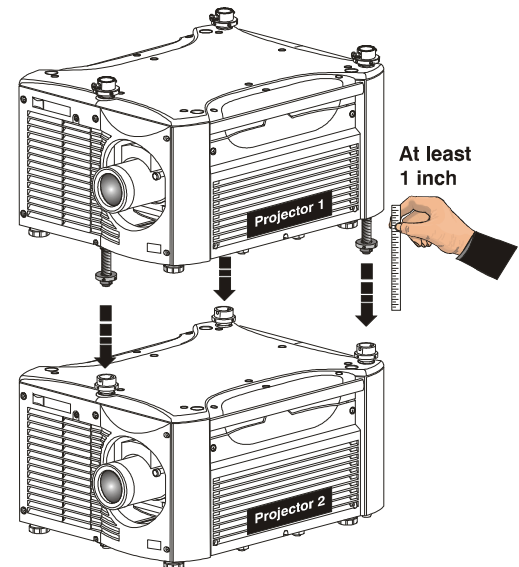

Figure 2-12 Extend 3 Stacking Legs (UPRIGHT STACK SHOWN)
Extend the stacking legs (3) by turning them so that at least 1 inch of thread is visible on each. This clearance accommodates the up-or-down movement for aligning the images from the stacked projectors. Ensure that you extend all 3 legs equally (see Figure 2-12) so they are level.
IMPORTANT! Ensure the stacking legs are extended at least 1 inch and are slightly loosened. Refer to *Figure 2-12*.